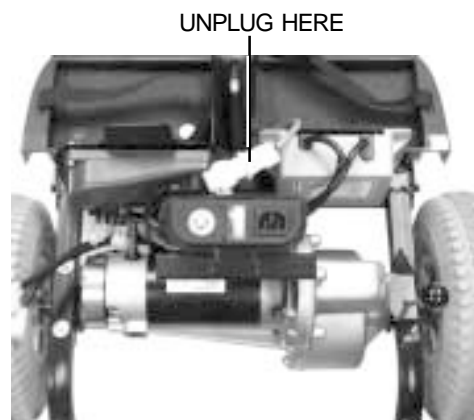

Figure 17. Front-To-Rear Connector
7. Unplug the large, white, 9-pin front-to-rear connector that attaches the front control console assembly harness to the electronic controller module harness. See figure 17.